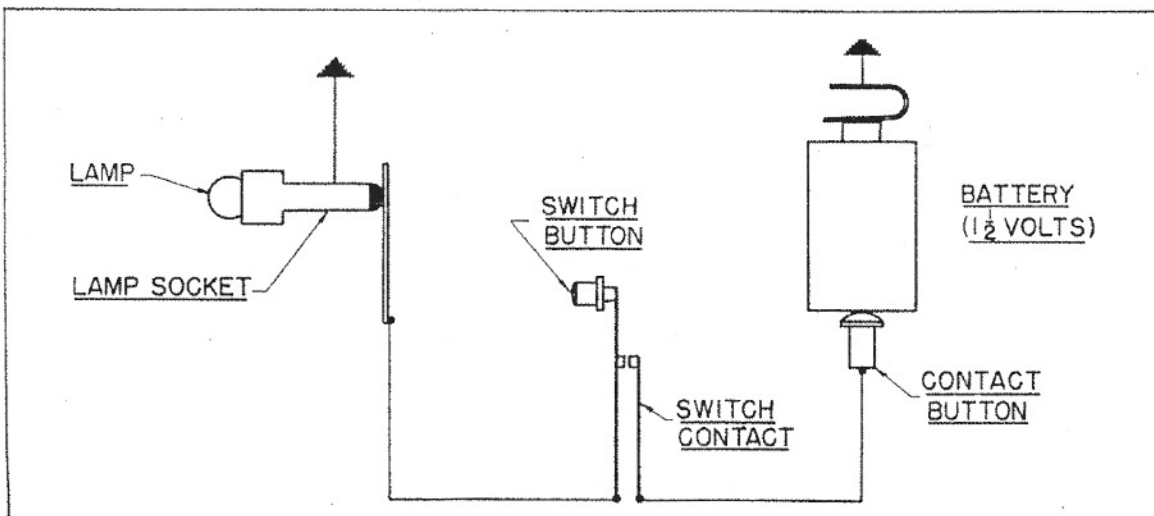

Figure 26 - Wiring Diagram - Aircraft Sextant - Type A-7 (3003-A, 3003-B)
1. Fasten the front insulator bracket (83) into the right side plate (34) with the three screws (87).
2. Secure the battery front insulator assembly (86) to the bracket (83) with the two screws (84).
3. Fasten the rear insulator bracket (97) into place with the three screws (96).
4. Resolder the wire to the rear insulator assembly (98) if the wire was removed and fasten the rear insulator assembly (98) insulating washer (100) and screw washer (101) onto the bracket (97) with the screw (99) and nut (103). Refer to wiring diagram figure 26.
(b) Thread the wire from the spring contact assembly on the right side plate through the hole in the left side plate and solder it to the movable contact spring assembly. Guide the wire from the battery rear insulator assembly through the hole in the left side plate and solder it to the stationary contact spring assembly. Refer to wiring diagram figure 26.
1. Sight through the index prism (33) and without rotating the scale drum (8) bring the horizontal collimator image into collimation with the bubble by adjusting the index prism carrier (112) as follows:
a. Remove the nut (117) and washer (116) that secure the index prism carrier to the worm wheel support (114) using the hex nut wrench (PQ-4614).
2. If replacement of either the horizon prism carrier or the adjusting plate was necessary, sight through the horizon prism and adjust the carrier as follows, prior to doweling. (Refer to figure 26)
a. Remove the nut (22), lockwasher (23) and washer (24) that secure the horizon prism carrier (27) to the adjusting plate (8) using the hex nut wrench (PQ-4614).
c. Sight through the horizon prism (19) and note the position of the image in relation to the bubble. Loosen the #10 hex nut with the hex nut wrench (PQ-4614) and rotate the horizon prism carrier until the image is in collimation with the bubble. Tighten the nut securing the carrier in place. In order to properly collimate the image it may be necessary to make adjustments with the two mounting screws (21) and adjusting screws (9) on the adjusting plate (8).